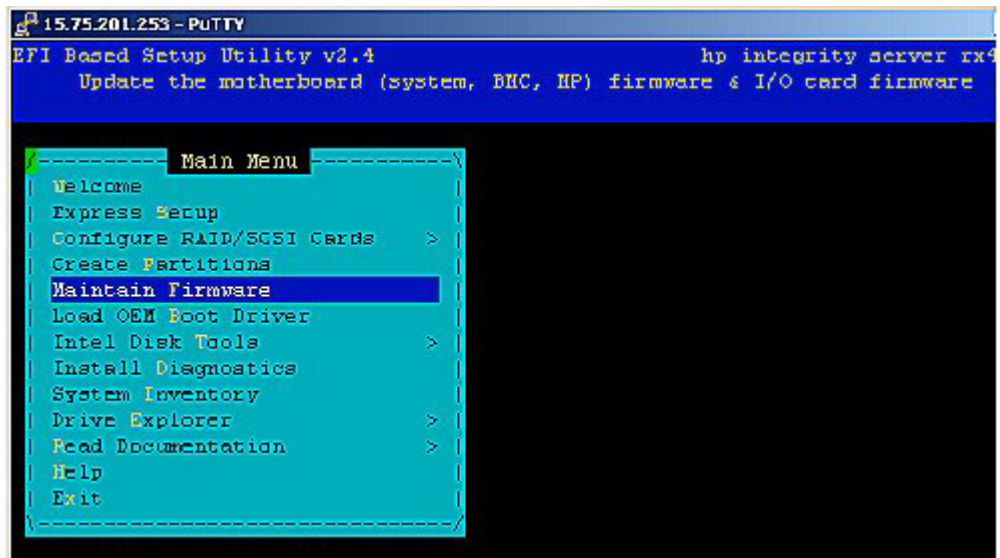

Figure 14: EFI Manager Main Screen
4. Press **F**, or scroll down and choose **Maintain Firmware**, as shown in Figure 14.